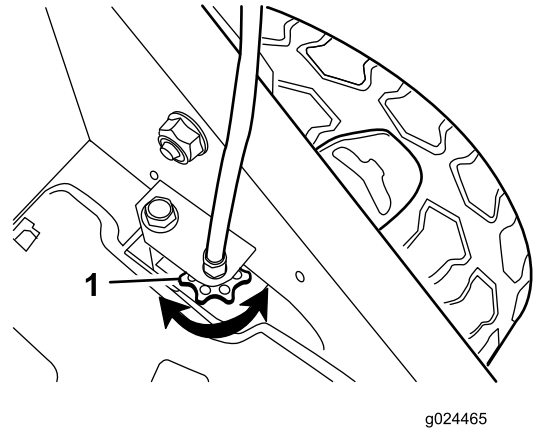

Figure 21
- If the wheels do not spin when you engage the self-propel-drive bar, the traction belt is too loose. Rotate the wheel-drive-control knob (Figure 21) clockwise 1 turn and repeat steps 4 through 6.
- If the wheels spin before you fully engage the self-propel-drive bar, the traction belt is too tight. Rotate the wheel-drive-control knob (Figure 21) counterclockwise 1 turn and repeat steps 4 through 6.